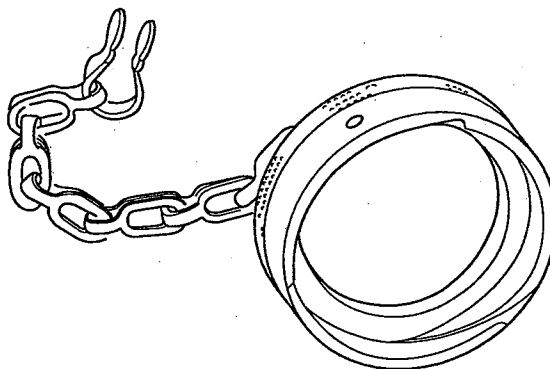

Fig 34 MS3131 Type C receptacle protective cap, general view
23.1.2 MS3181 Type N - for jam nut (single hold mounted) receptacles (Fig 34).